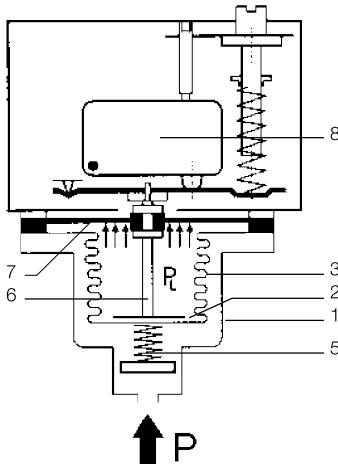

Fig. 1
- By a self monitoring pressure sensor which is designed so that a breakage in the mechanical part of the measuring element leads to cut-off to the safe side (see Fig. 1)
Fig. 1 is a cross-sectional diagram of a pressure sensor which fulfills the "special construction" requirements. The measuring chamber is bordered by the housing (1), base (2) and measuring bellows (3). All parts are made of stainless steel and are welded together without filler metals. When the pressure rises the measuring bellows (3) moves upwards, supported by the back pressure spring (5). The setpoint spring installed in the switching device acts as a counter force. A transfer bolt (6) which transfers the pressure-dependent movements of the measuring bellows (3) to the switching device located above is placed on the inside of the base. A plastic diaphragm (7), which is not in contact with the medium and in normal operation follows the movements of the measuring bellows but itself has no influence on the position of the bellows, is clamped in the upper part of the transfer bolt. On breakage of the measuring bellows (3), the medium can escape into the interior of the bellows. The medium pressure is now on the underside of the diaphragm (PL). An additional force is generated because of the far larger effective area of the diaphragm compared with the bellows, and this pushes the transfer bolt (6) upwards. This results in cut-off to the safe side. The cut-off condition thus achieved is normally interlocked electrically or mechanically, so that the system also remains cut off when the pressure drops again. The plastic diaphragm (7) is not a pressure-bearing part; it has no function in normal operation and is effective only if a leakage occurs to the measuring bellows. Safety diaphragms of the described design are permissible up to 32 bar. This should be sufficient for most applications.